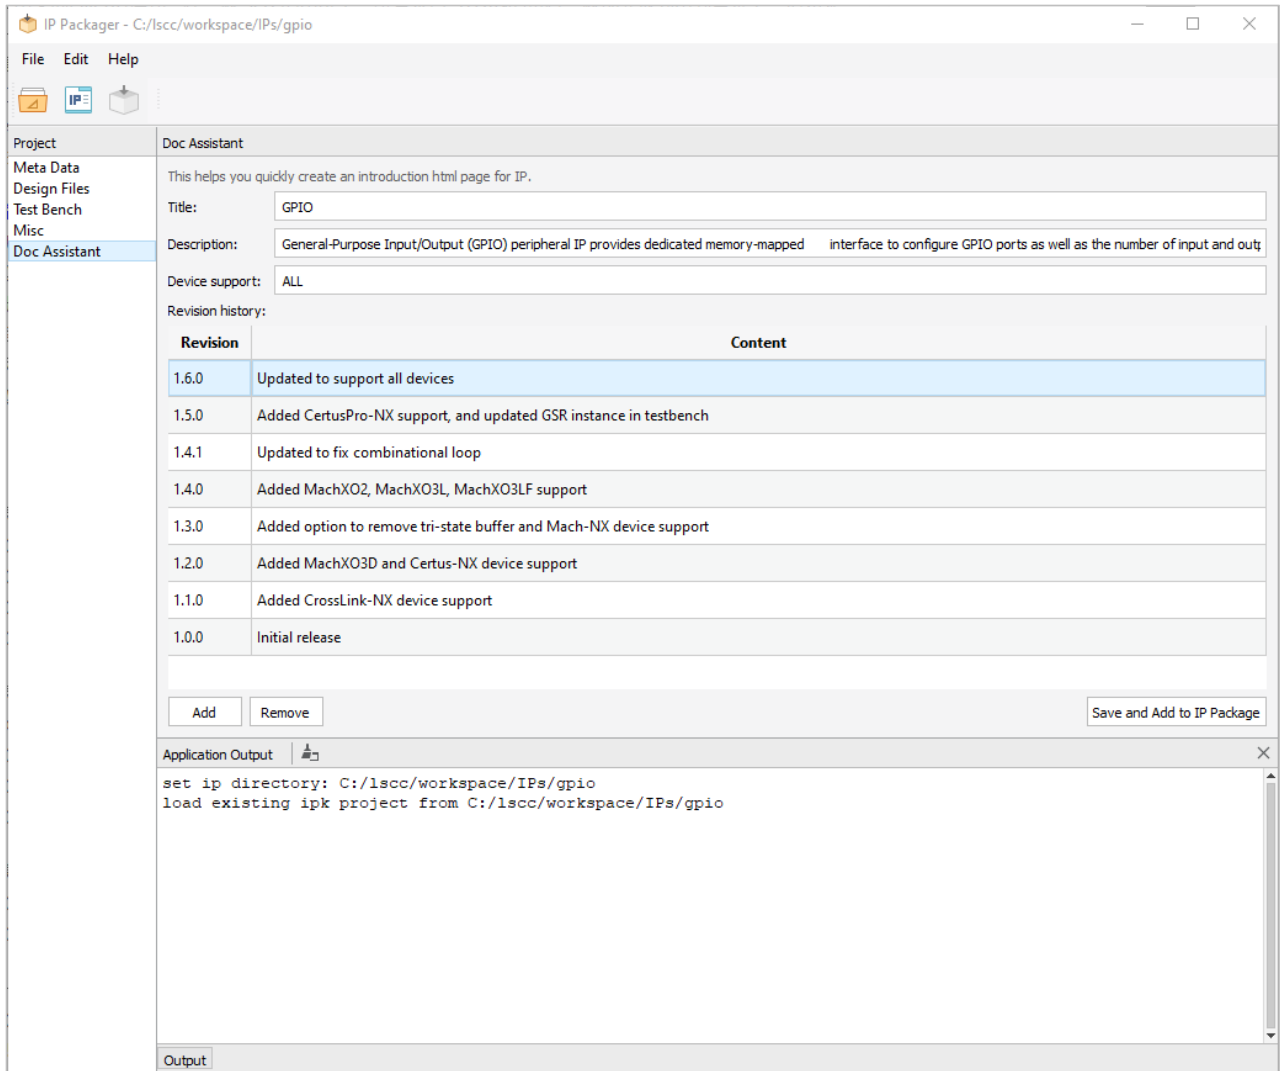

Figure 3.32. Configure Doc Assistant
- Double-click and enter a revision in **Revision** field. Double-click and enter revision contents in **Content** field. Refer to Figure 3.32 as an example. Click the **Add** button. A new blank row is added to the Revision History area. You can add desired revision and contents accordingly. Select the revision you want to delete, and click the **Remove** button to remove a Revision.